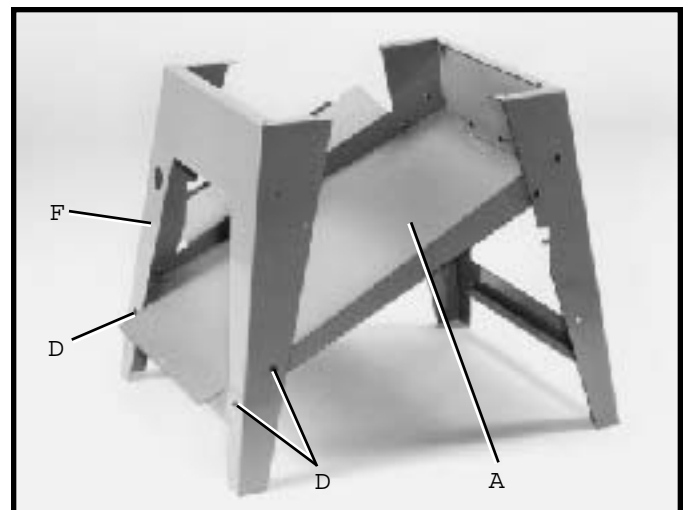

Fig. 7
2. Assemble the other end of dust chute and support panel (A) Fig. 7, to rear stand panel (F) as shown with four #10-32 x 1/2" screws and hex nuts, three of which are shown at (D). NOTE: Do not completely tighten stand hardware at this time.